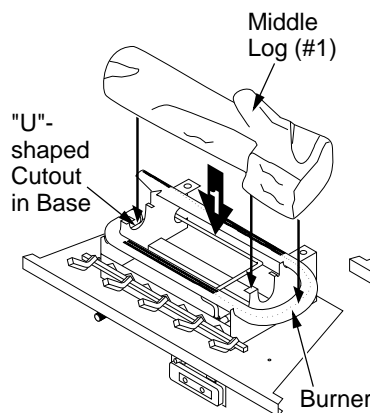

Figure 49 - Installing Middle Log (#1)
1. Place the base of the middle log (#1) in the U-shaped slots of the grate base. The cutout on the right of the middle log should fit over the burner (see Figure 49). Make sure the front of the middle log is resting on the tabs of the grate base and the cut-out area is centered over the burner "U" bend.